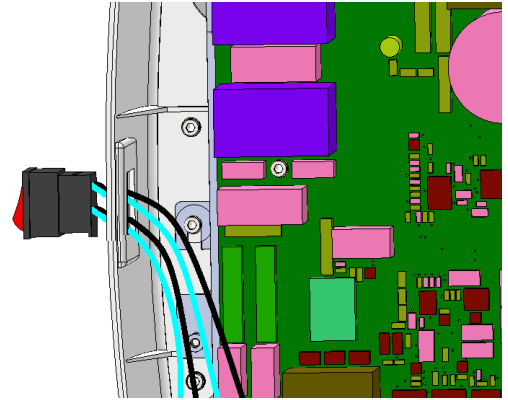

Figure 80
- Pull out defective switch from the base unit rear cover as shown in Figure 80.
- Take the new switch and fix it in the base unit rear cover by inserting from outside as shown in Figure 80.